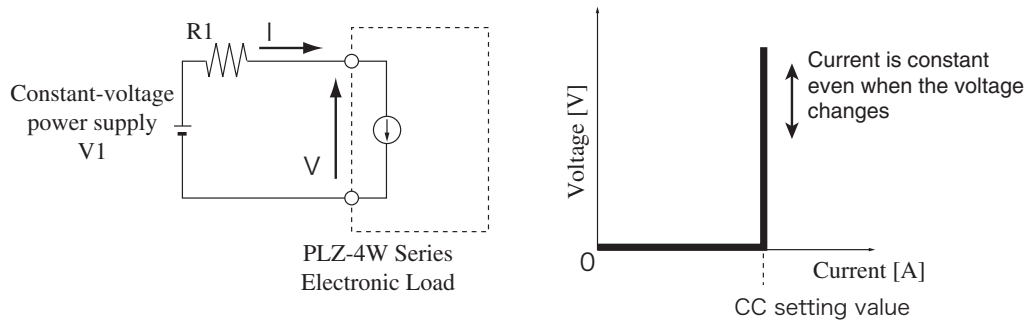

Fig. A-2 Equivalent circuit of the constant current load and operation
When the PLZ-4W is used in CC mode, the PLZ-4W operates as a constant current load as shown in Fig. A-2. The PLZ-4W sinks the specified current (I) independent of the output voltage of the constant-voltage power supply ($V1$).